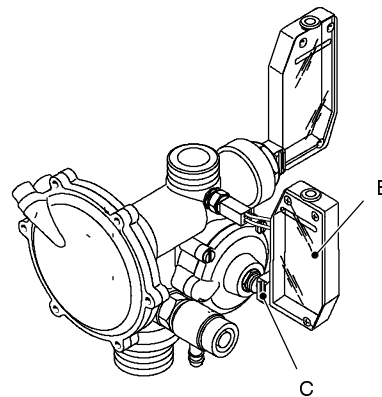

fig. 59
As a consequence of any one of these causes the main circuit flow switch cuts – off an electric circuit by means of a microswitch (B in fig. 59) installed on it.
- 2 Remove the fork C that holds the main circuit flow switch B (fig. 59).
- 2 Remove the fork *E* that holds the main circuit flow switch *B* (fig. 59).
- 2 Remove the fork *C* that holds the switch placed on the valve and remove the switch (fig. 59).